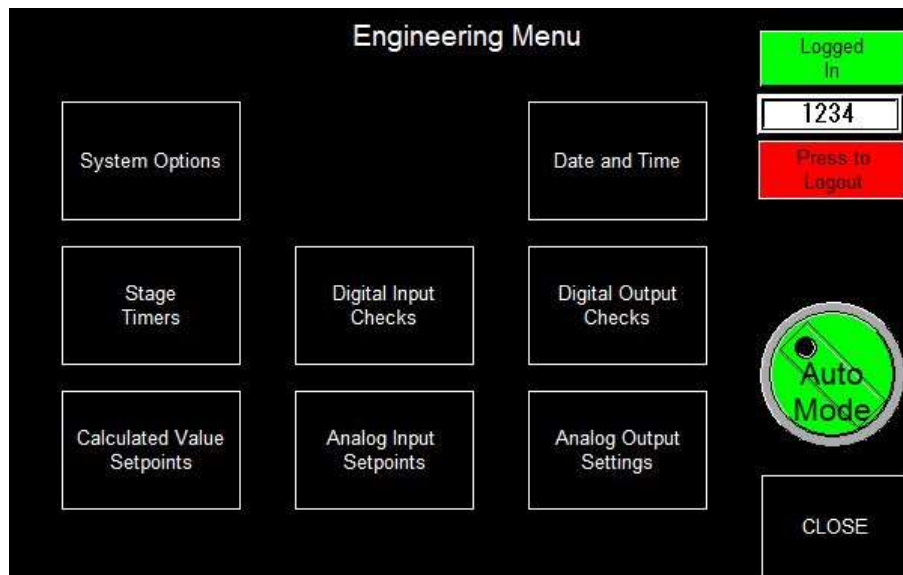

Figure 5.5 – Engineering Menu
1) Press Digital Output Checks (See Figure 5.5 above).
- 9) Press MENU button. Press the Logout button (See Figure 5.5 above). System is now ready for automatic operation go to next section.